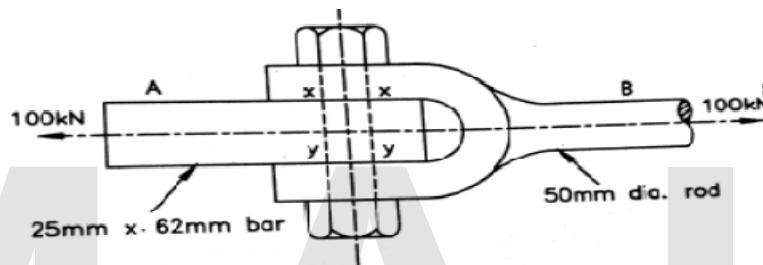

Figure 1
1. Two bars A and B are connected by a bolt of 25 mm diameter as shown in the following Figure 1. The cross-section of bar A is rectangular 25mm x 62 mm and that of bar B is circular 50 mm in diameter. If the bars are subjected to a load of 100 kN, *evaluate* the tensile stress in two bars and shear stress in the bolt.